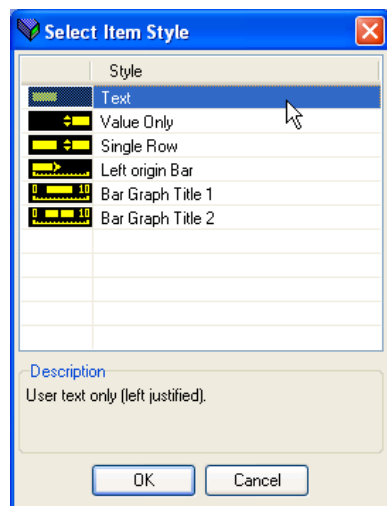

Figure 7.8.1a Style selection
2. Double-click one of the cells in the 'Promote Parameter List' to display the 'Select Item Style' window (figure 7.8.1a).